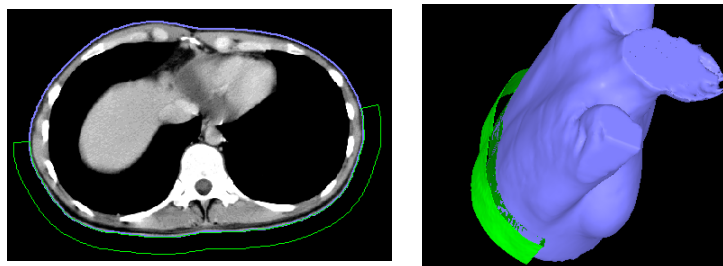

Figure 250 – Generated bolus ROI around the skin surface
5. After the fourth point is defined in the current view, the bolus calculation process starts automatically. The bolus is generated and displayed as contours in the image series and as volume in the 3D view (see Figure 250).